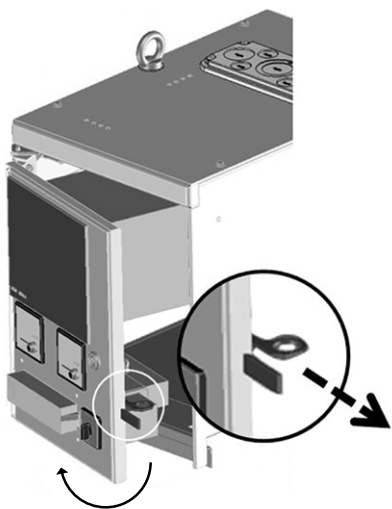

Figure 3-16: Blocking handle
3. For certain secondary equipment, an additional handle is in place on the door to block full door opening. Pull the handle outward to activate the hinge in the door to enable full door opening; see figure 3-16.